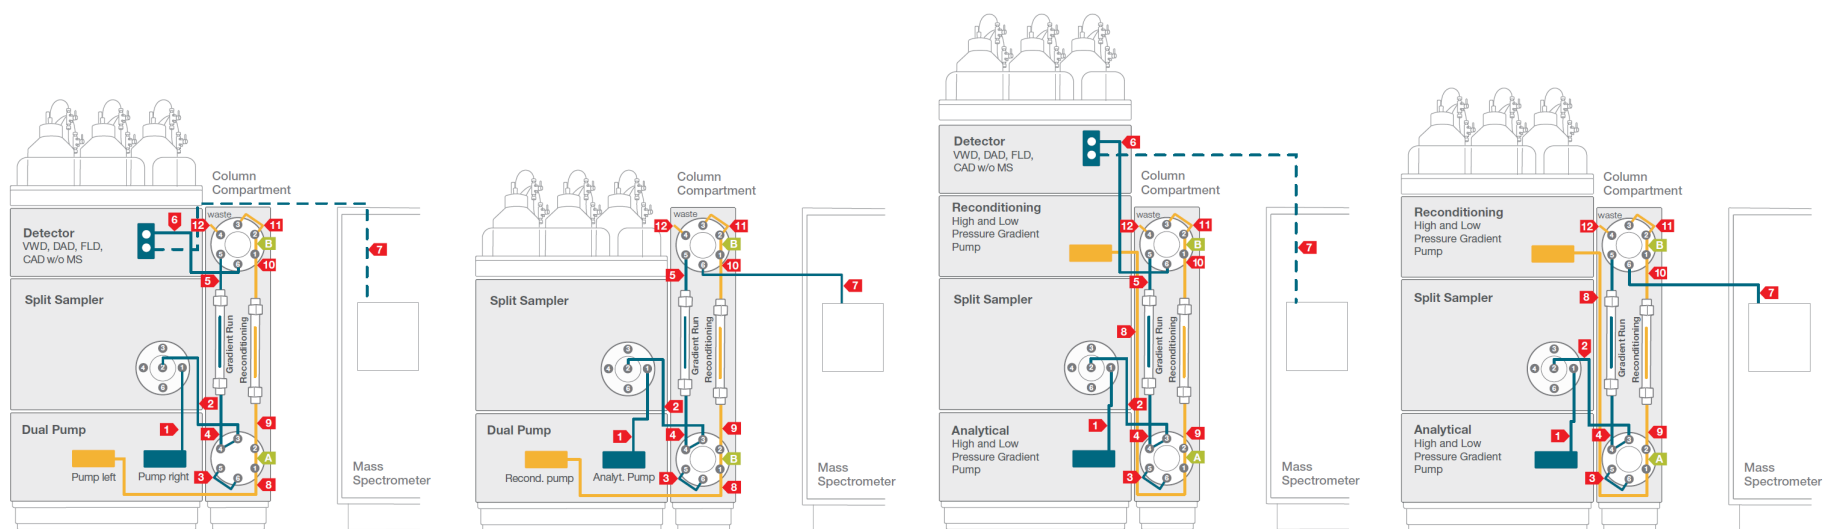

Figure 1: Vanquish Duo for Tandem LC or LC-MS flow schemes
2. Identify your configuration out of the four *Flow Schemes (Figure 1)* and stack the modules accordingly. Some Vanquish configurations may require the stacking of more than four modules (e.g. Vanquish Duo setups with two separate pumps and two detectors). This installation mandatorily requires an appropriate protection against tilting.
TIP: The *Flow Scheme* of the installed system configuration can be clipped into the right sampler door (Figure 1).